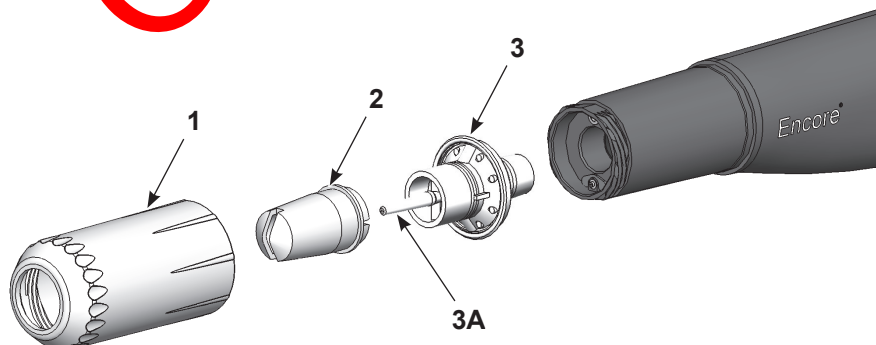

Figure 8 Flat Spray Nozzle Removal and Installation
1. See Figure 8. Unscrew the nozzle nut (1) counterclockwise.
2. Pull the flat spray nozzle (2) off the electrode assembly (3).